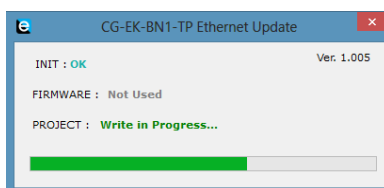

Figure 14 - Update in progress
- When all operations are completed (see Figure 14 – Update in progress) shut down the device
- When all operations are completed (see Figure 14 – Update in progress) the device automatically switches back to Normal mode.